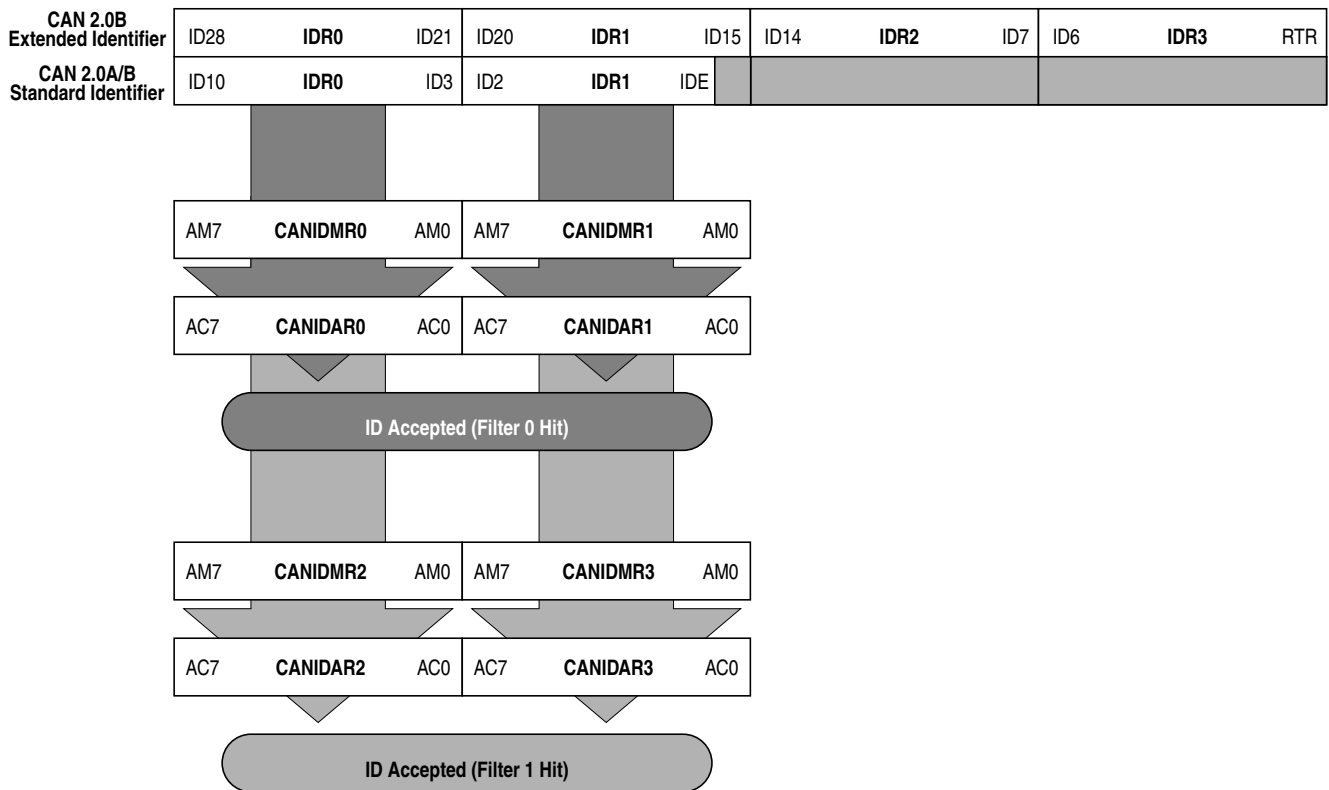

Figure 8-41. 16-bit Maskable Identifier Acceptance Filters
- Figure 8-41 shows how the first 32-bit filter bank (CANIDAR0–CANIDA3, CANIDMR0–3CANIDMR) produces filter 0 and 1 hits. Similarly, the second filter bank (CANIDAR4–CANIDAR7, CANIDMR4–CANIDMR7) produces filter 2 and 3 hits.